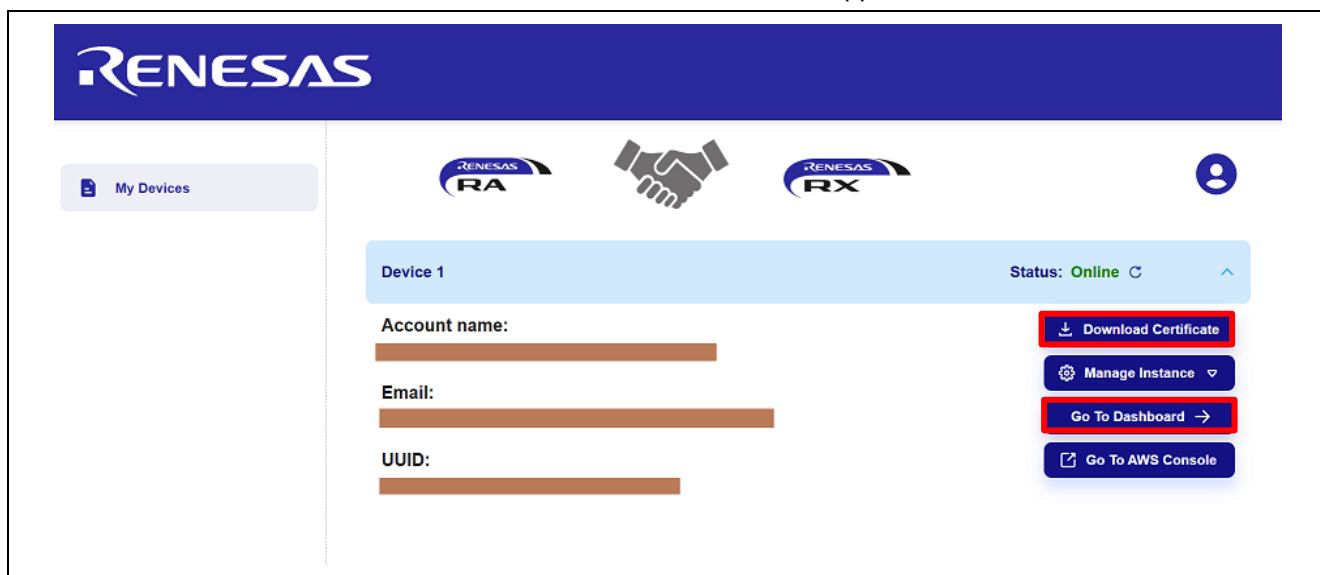

Figure 40. Completing Device Provisioning
- Please unzip the `cert.zip` from the dashboard (downloaded at Figure 40. **Completing Device Provisioning**)